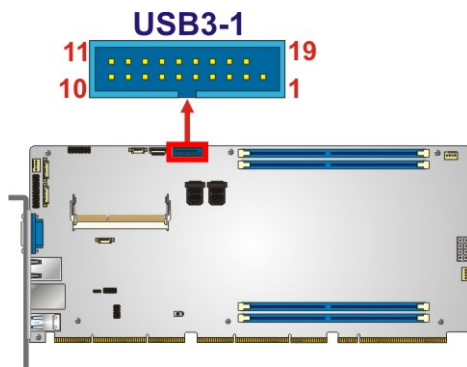

Figure 3-16: USB 3.1 Gen 1 Connector Location
- CN Location:** See **Figure 3-16**